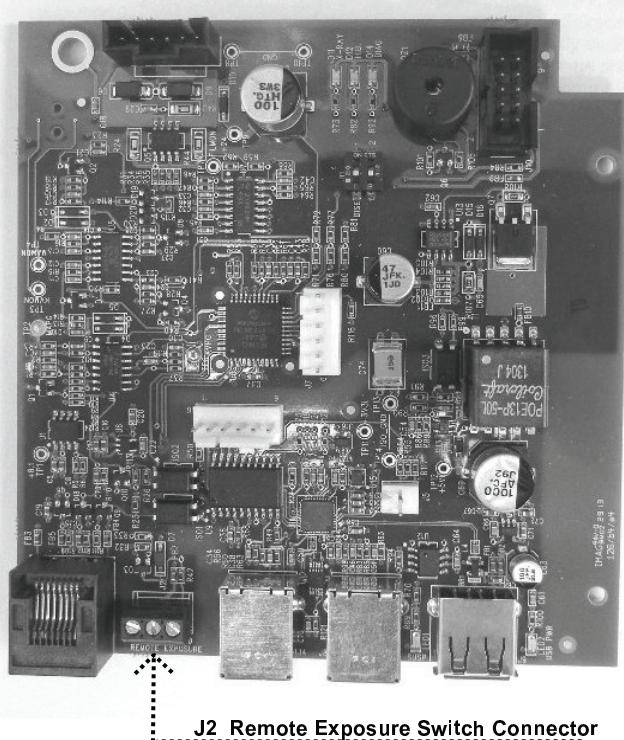

Figure 56
1. If the Operator Panel indicator does not sound, inspect the condition of any remote exposure switches. Substitution is the preferred method to test these switches, although a jumper wire can be applied across the contacts of J3, shown in Figure 56, on the Logic Board momentarily to simulate an exposure switch closure.